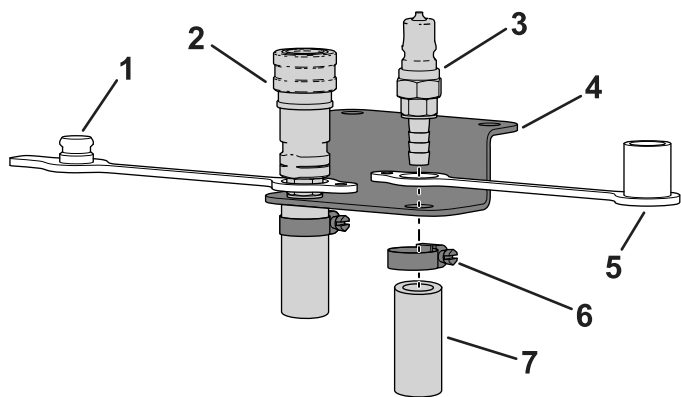

Figure 15
3. Place the dust plug around the barbed end on the female-coupler assembly and insert it into the left hole on the hose bracket (Figure 15).
- Place the dust cap around the barbed end on the male-coupler assembly and insert it into the right hole on the hose bracket (Figure 15).
- Slide a hose clamp over each hose (Figure 15).
- Insert the supply hose into the barb end of the female-coupler assembly and use the hose clamp to secure it to the hose mount (Figure 15).
- Insert the return hose into the barb end of the male-coupler assembly and use the hose clamp to secure it to the hose mount (Figure 15).